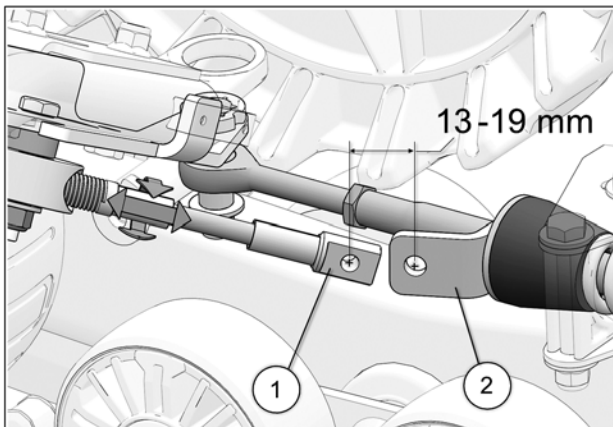

Fig. 29
20. Turn the vehicle's steering wheel to its maximum point of travel on the left. While maintaining pressure on the steering wheel, turn threaded rod to adjust length of cable. See Fig. 29
21. Position cable end hole (1) 13 to 19mm [ $\frac{3}{4}$  in.] short of support plate (2) mounting hole. See Fig. 29